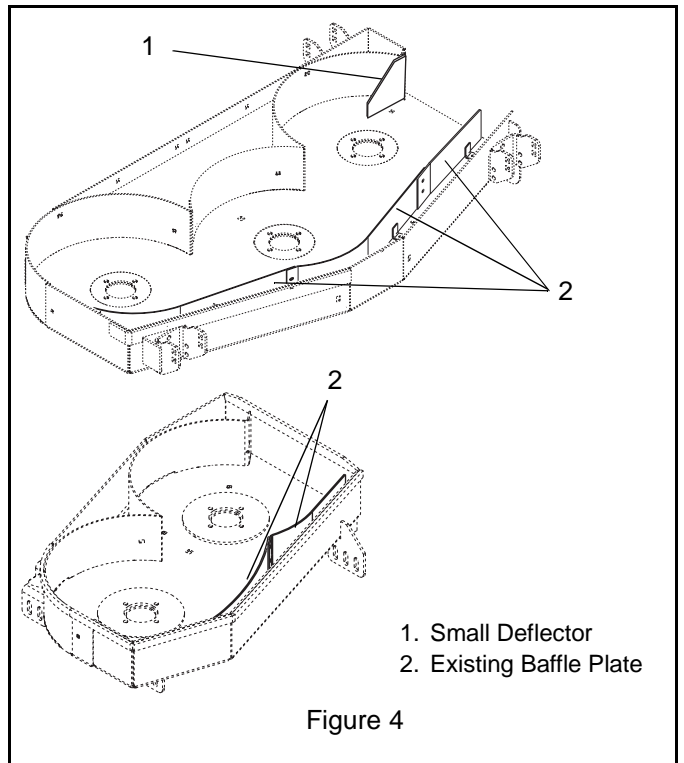

Figure 4
4. Remove the existing baffle plates and small deflector from the underside of the mower deck. Save all hardware, small deflector and baffle plates (Figure 4).